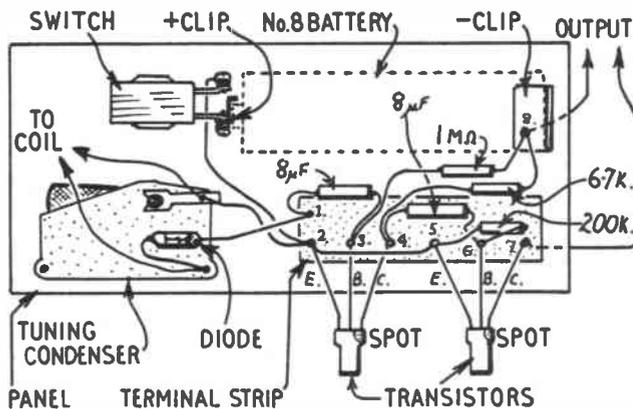

Fig. 2—Receiver wiring plan
Fig. 2 is a complete wiring plan of the set, built upon a paxolin or wooden panel $2\frac{1}{2}$ in. by $5\frac{1}{2}$ ins. Tuning condenser and switch are held by lock nuts. A small knob is fitted to the condenser, which can be $.0003\mu\text{F}$ if there is no need to tune to high wavelength stations around 500 to 550 metres, or $.0005\mu\text{F}$ if tuning to these high wavelengths is required.
Looking at Fig. 2, bolt 1 joins the negative ends of the diode and $8\mu\text{F}$ condenser. No. 2 is joined to 5, and two short lengths of thin flex are also secured here, to go to the switch and moving plates tag or terminal of the tuning condenser.
The transistors are now taken, and small loops are made at the ends of their leads, which should not be cut off short. With the first transistor, the emitter lead (E) goes to 2, the base lead (B) to 3, and the collector lead (C) to 4, as in Fig. 2. Either a white spot or red spot transistor can be used, the spot indicating the collector. With other types of transistor, follow the maker's instructions, which will show emitter, base and collector leads.